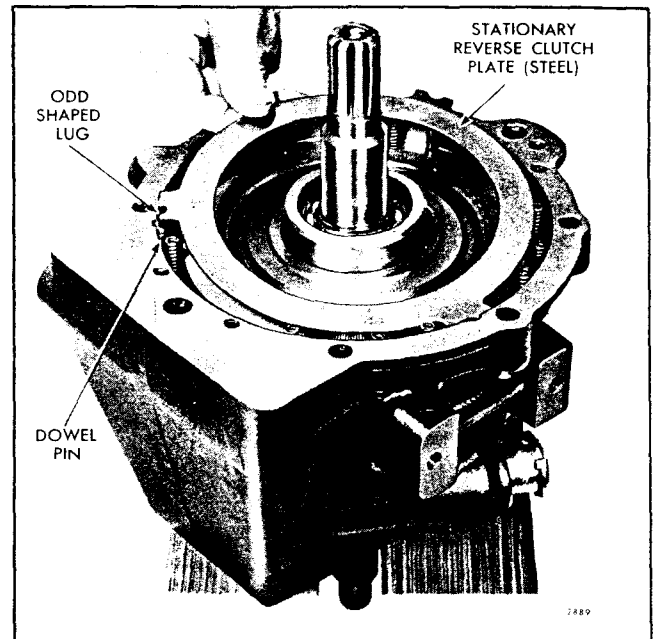
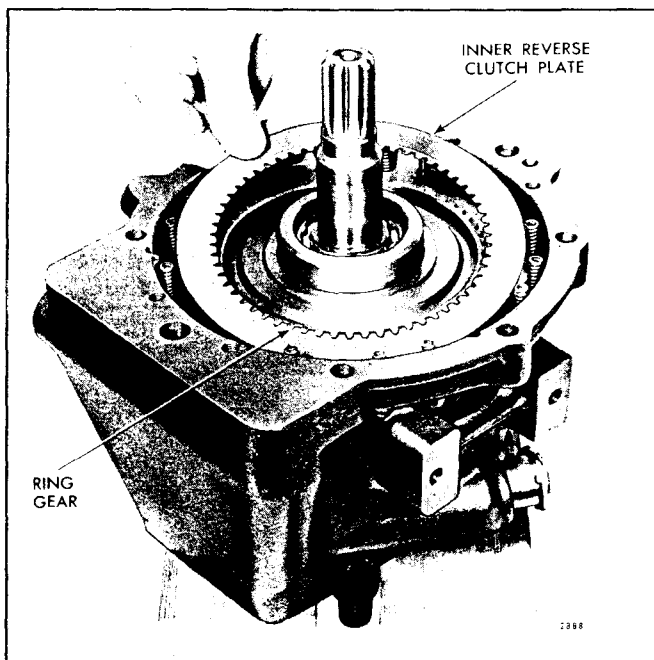

Fig. 73 - Installing Stationary Reverse Clutch Plate (Steel) in Gear Housing
Fig. 72 - Installing Inner Reverse Clutch Plate in Gear Housing
- f. Place an inner reverse clutch plate down in the reverse clutch cavity of the gear housing with the teeth of the clutch plate in mesh with the splined teeth of the ring gear as shown in Fig. 72. Then place the stationary reverse clutch plate (steel) down over the dowel pins and on the inner clutch plate with the odd shaped lug over the left-hand lower dowel pin as shown in Fig. 73. Place the second reverse clutch plate down on the steel plate with the teeth of the clutch plate in mesh with the splined teeth of the ring gear.